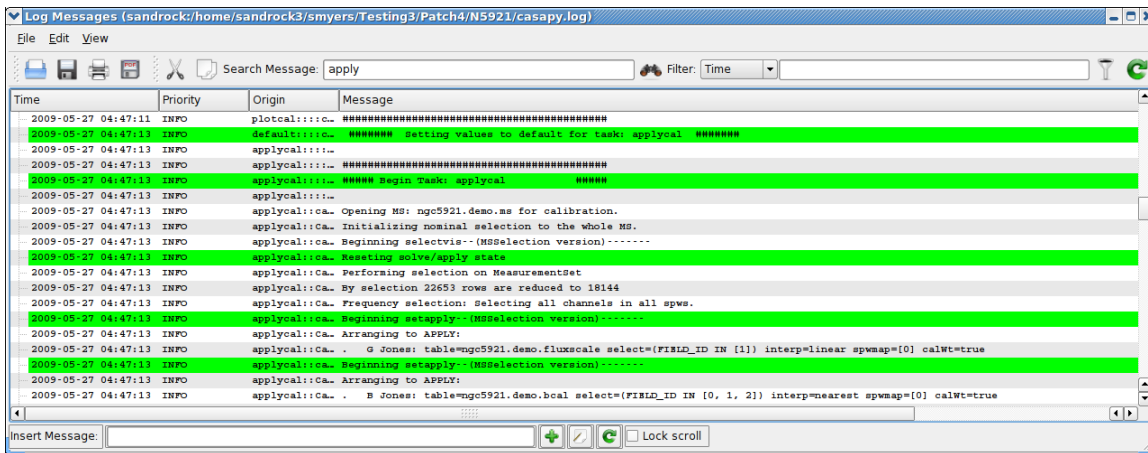

Figure 1.5: Using the Search facility in the `casalogger`. Here we have specified the string 'plotted' and it has highlighted all instances in green.
- **Search** — search messages by entering text in the Search window and clicking the search icon. The search currently just matches the exact text you type anywhere in the message. See Figure 1.5 for an example.